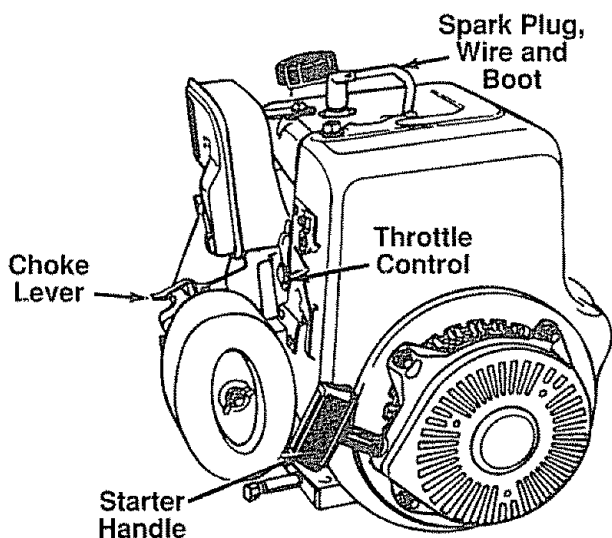

FIGURE 13.
- Attach spark plug wire and rubber boot to spark plug. See figure 13.
- Grasp starter handle (see figure 13) and pull rope out slowly until engine reaches start of compression cycle (rope will pull slightly harder at this point). Let the rope rewind slowly.